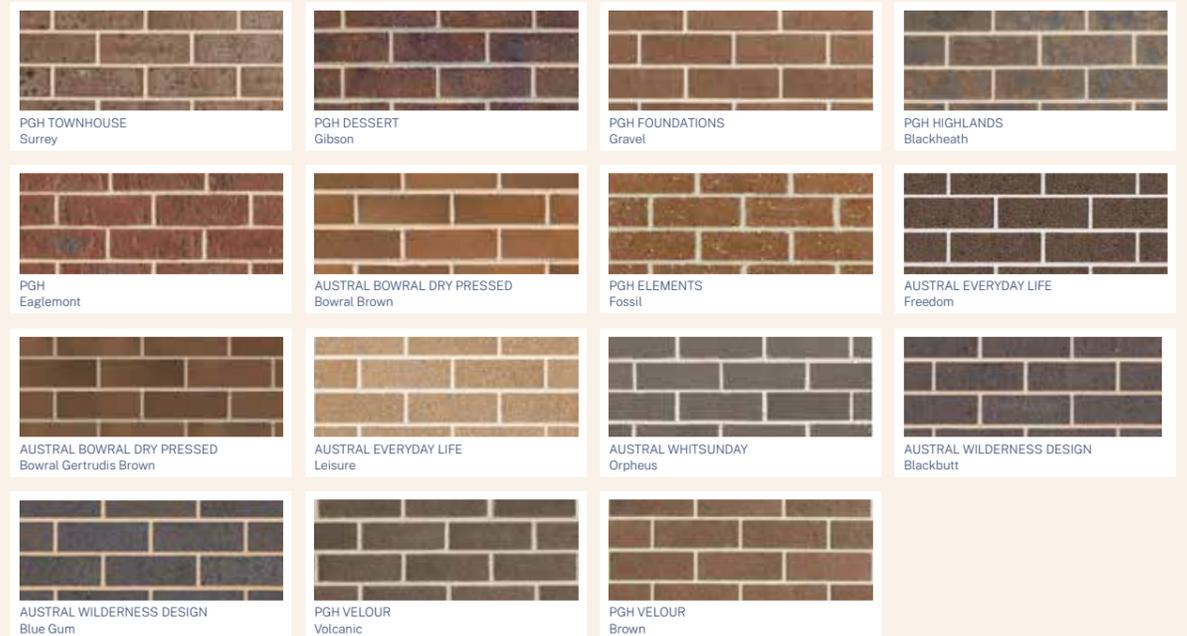

Figure 1 – Brick Colours
- Brickwork on the ground storey may be rendered and painted. In instances where the brickwork is not rendered or painted, brick colours are permitted as per figure 1.
- Fibrous Cement (FC) sheeting with battens is not permitted.